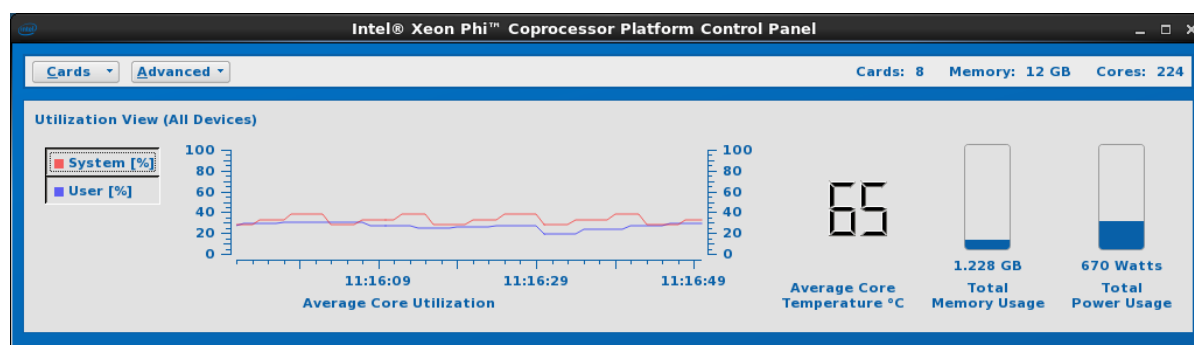

Figure 20: Average Utilization View
Shown in Figure 20 below, the **Average Utilization View** is the default view presented by the Control Panel application on startup and is the primary Control Panel view for graphical visualization of Intel® Xeon Phi™ Coprocessor overall system status. The performance parameters monitored by the four (4) GUI components are listed below. Each component is discussed in the following sections, including the parameters monitored.